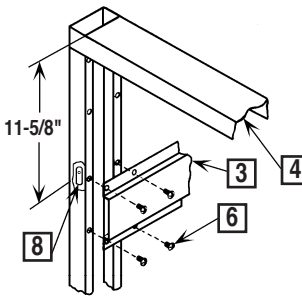

FIGURE 5
1. The stringer (Item 3) is to be attached to the leg weldment (Item 4). Position the stringer so that the holes in the end of the stringer are in line with the holes in the legs; located approximately 11-5/8" down from the top of the leg weldment. Fasten the stringer to the leg with (4) screws and weldnuts (Items 6 & 8) as provided. See Figure 5. Repeat procedure at the other end.